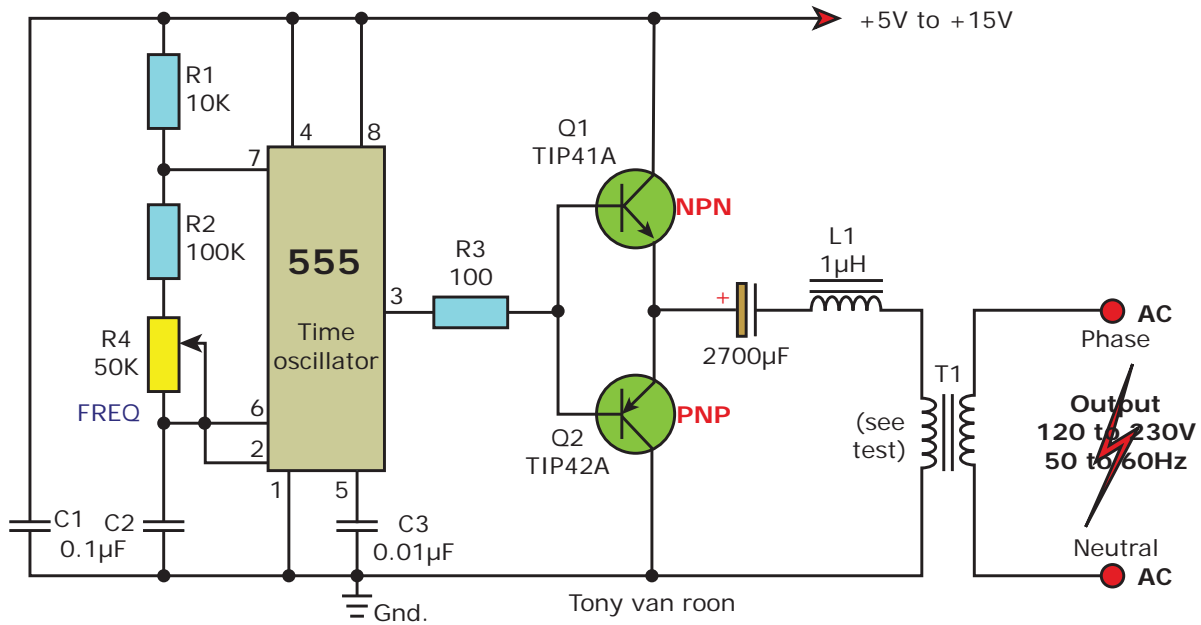

FIGURE 8.5 12 V DC to 220 V AC inverter using 555
Inverter is an electronic circuit, which converts direct current (DC) into alternating current (AC). The input voltage, output voltage and frequency, and all power handling depend upon the DC source. A simple 12 V DC to 220 V AC inverter circuit shown in Figure 8.5 produces an